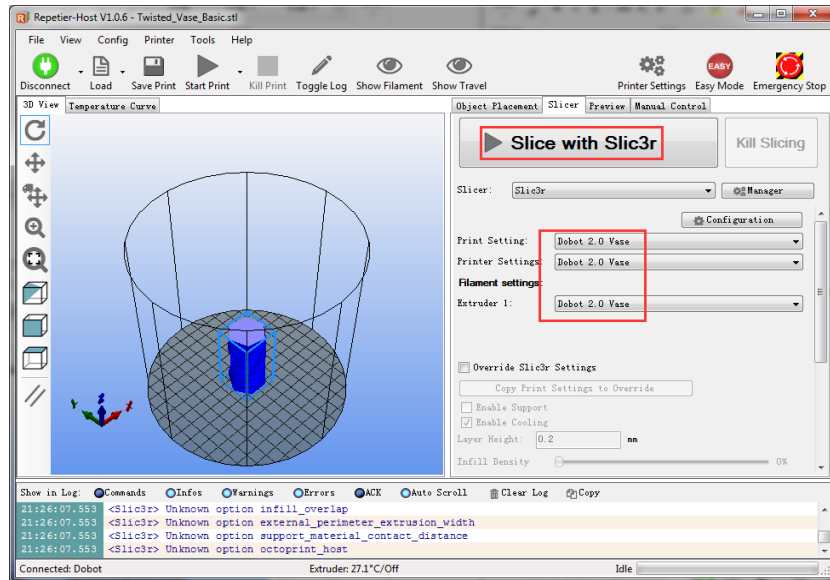

Figure 5.129 Start to slice
4. Click **Slici with Slic3r** on the **Slicer** tab of the **Repetier Host** page, as shown in Figure 5.129.